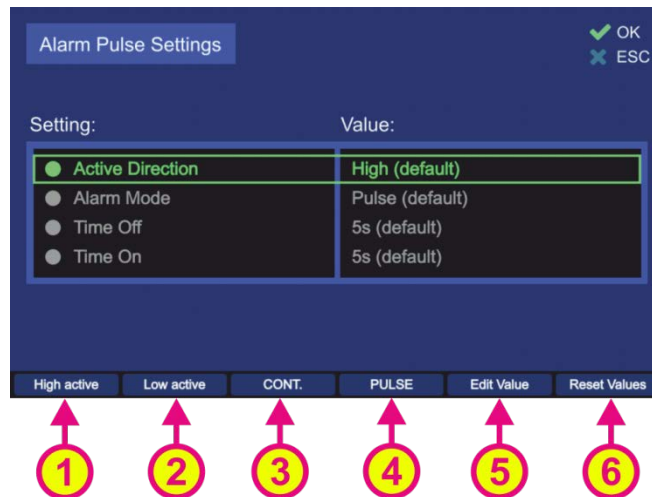
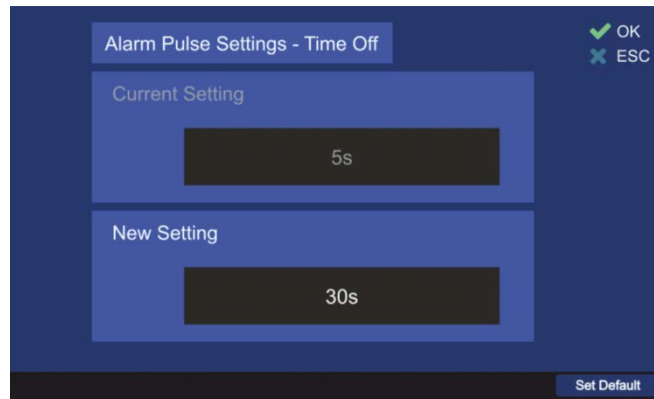
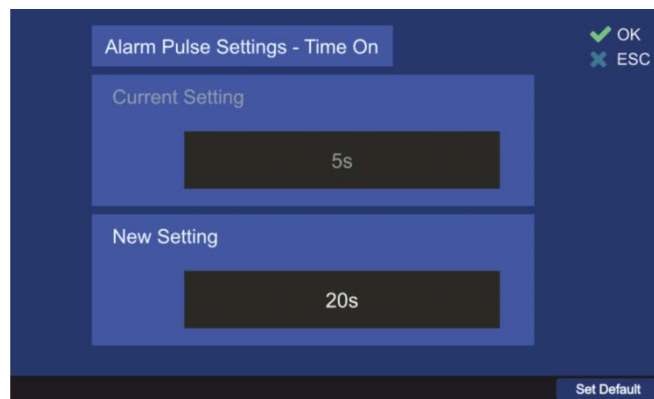

Fig. 107 Alarm pulse settings
Fig. 110 Time off Dialog
Fig. 111 Time on Dialog
In this dialog pressing “OK” will be interpreted as confirming of the whole set of settings that are currently displayed, which will lead to closing the dialog confirming changed values. To change the single settings only the hotkeys for modifying the related values are used (s. Fig. 107).
Active direction setting defines which direction (low or high) will lead to an alarm indication. This setting is changeable using the hotkeys “High active” / “Low active” or “Edit Value” (s. Fig. 107, numbers 1, 2 and 5), whereat using the first two hotkeys will change the value without opening the separate dialog.
This setting is changeable using the hotkeys "CONT." / "PULSE" or "Edit Value" (s. Fig. 107, numbers 3, 4 and 5), whereat using the first two hotkeys will change the value without opening the separate dialog.
- To change the "Time Off"- time, press the hotkey "Edit Value" (s. Fig. 107, position 5). The related dialog will open (s. Fig. 110).
- To change the “Time On”- time, press the hotkey “Edit Value” (s. Fig. 107, position 5). The related dialog will open (s. Fig. 111).